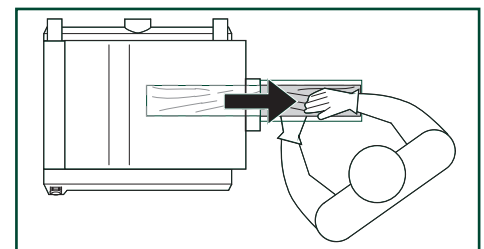

FIG. 39
2. To remove the workpiece from the machine, position yourself offset to one side of the outfeed opening. FIG. 39. Do not pull the lumber as it exits the machine. Let the outfeed roller move the workpiece out of the planer at its own rate, but support the lumber as it extends past the extension rollers, if needed.